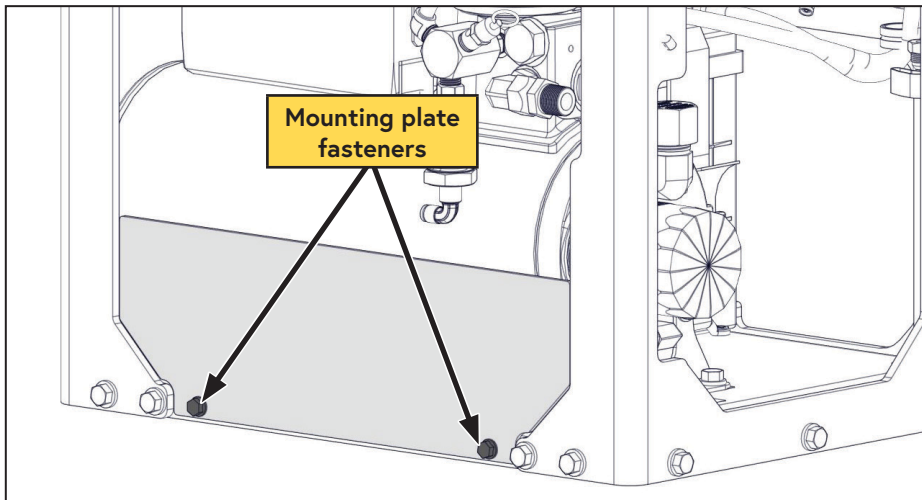

Figure 75 — Remove instruction plate
- ☐ Remove the plate with the instruction decal (Figure 75).